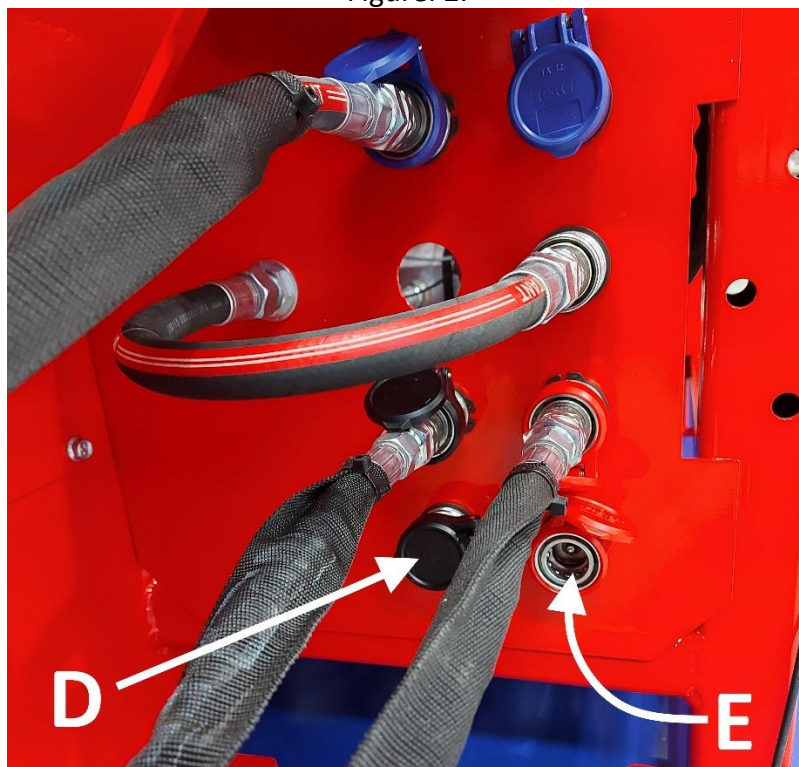

Figure 2a.
5. Connect the conveyor's pivot motor hoses to quick couplings D and E (Figure 2a).